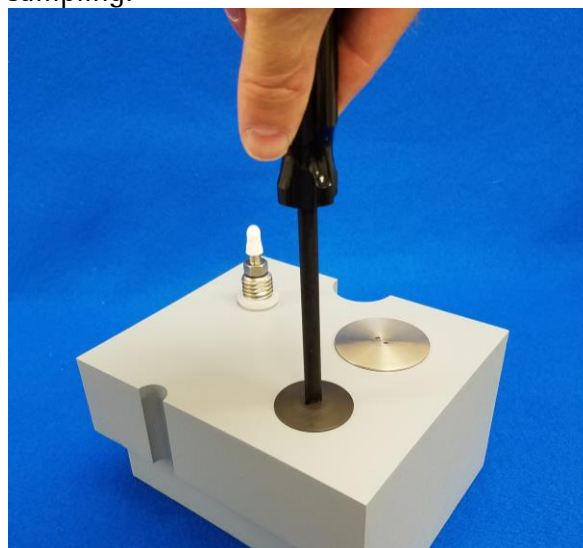

Figure 7. Spanner Tool and Secure Cover
- 7) Remove the barb fitting and screw the Mini Pin™ Sampling Device Secure Cover onto the Mini Pin™ (Figure 7). Allow 2 hours or more (consult applicable guidance for your situation) for the sub-slab soil-gas conditions to re-equilibrate prior to sampling.